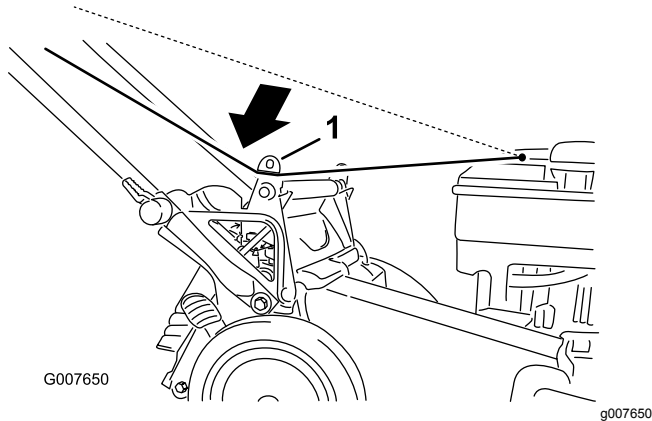

Figure 22
1. Route the starter rope around the lower-rope guide (Figure 22).